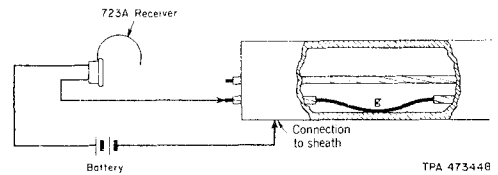

Fig. 1—Detecting Grounded Conductor
2.01 The tests for detecting open, crossed, and grounded pairs, with a battery and receiver are made as shown in Fig. 1, 2, and 3.
(a) **Detection of Ground**—To detect a grounded wire (Fig. 1) connect one side of the battery to the sheath of the cable (ground) and the other side to one terminal of the receiver; the other receiver terminal is connected to the wire under test. A circuit is formed when the grounded wire is touched with the test clip and a click will be heard in the receiver.